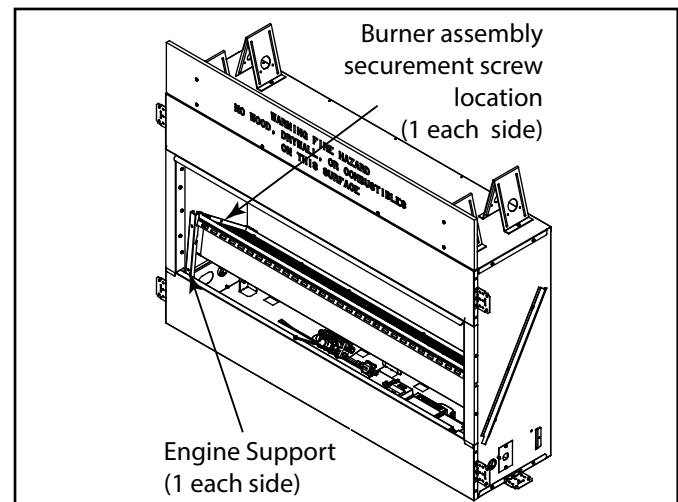

Figure 3.6 Control Cavity Location (Cut away front view only for location purpose, no direct access from front)
The IntelliFire Touch with ODS intermittent pilot ignition system comes with a battery backup system that enables the system to operate in a power outage. The system offers seamless transition from household AC power to battery backup. A factory-installed battery pack is located in the control cavity of the appliance. See Figure 3.6. Battery longevity and performance will be affected by long term exposure to the service temperatures of this appliance.
1. Access the control cavity of the appliance. See Figure 3.6 for location. Make sure unit is off and cool. Lift the barrier screen off of the appliance. Remove the logs or stone if installed. Remove crushed glass media and deflection glass panel from hearth pan. Remove two (2) screws securing burner assembly to appliance, set aside. Lift the burner assembly and place the two engine supports, provided under the engine, against lower front space at the bottom of the face, and slide into the slots at the bottom of the engine assembly. See Figure 3.6.